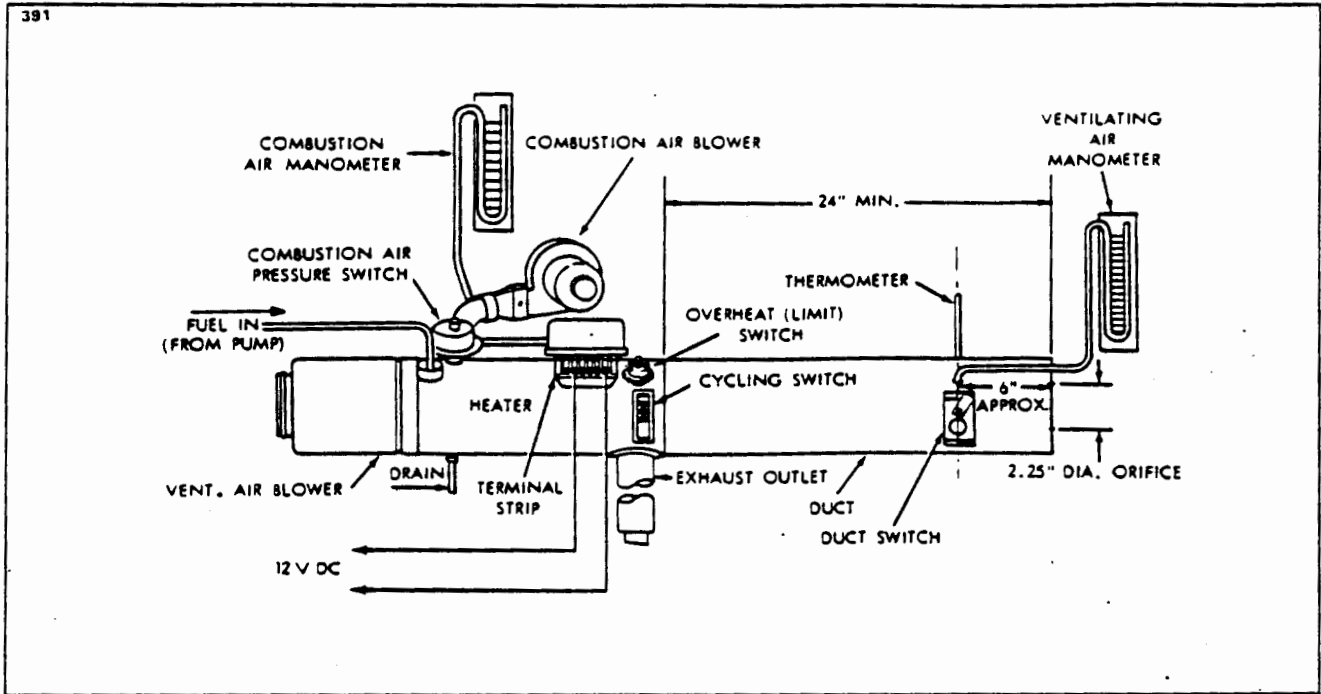

Figure 21-20. Suggested Setup of Heater Operation Test
EQUIPMENT REQUIRED. (Refer to Figure 21-20.)
6. A piece of duct to be attached to the downstream end of the heater. It should have a minimum length of 24 inches and the same diameter as the heater being tested. A 2.25 inch diameter orifice should be centrally located at the outlet end. An aperture should be provided for the thermometer and duct switch and a static tap should be attached as shown in Figure 21-20.
OPERATIONAL TEST (ON TEST BENCH). (Refer to Figures 21-20 and 21-21.)
1. Connect the heater to the test setup as shown in Figure 21-20. Make sure the combustion air blower is mounted securely and that the heater is clamped to its supporting stand.
2. Insert the duct switch in the sheet metal extension tube at the location shown in Figure 21-20.